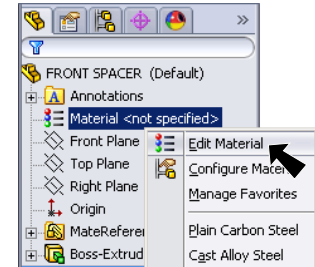

Fig. 9
Step 1. **Right click Material**  in the Feature Manager and click **Edit Material**, **Fig. 9**.